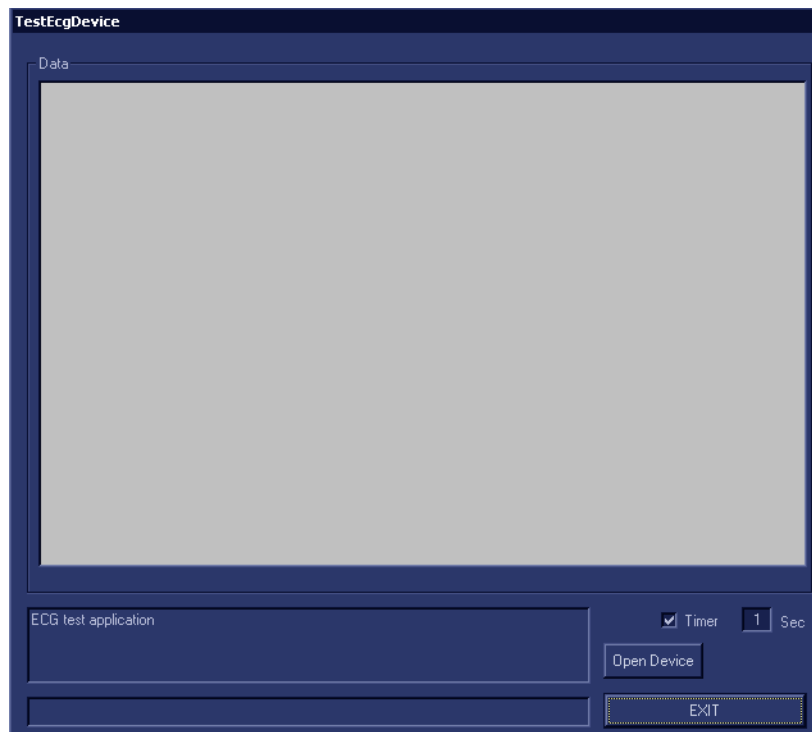

Figure 7-78 ECG Device Test Screen
The interactive ECG Device Test screen is displayed as shown in Figure 7-78.
- 7.) Make sure that the resolution scale is set to 1 Sec. (as shown in Figure 7-78, above).